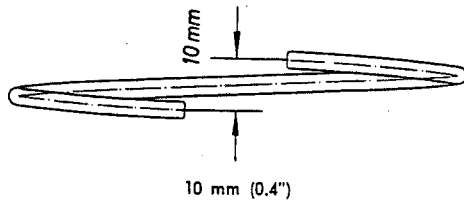

Fig. H 3/36b
38. Place adjusting washers on threaded ring, install bevel drive gear shaft into the housing and tighten threaded ring with wrench 191 589 05 07 (see Fig. H 3/6).